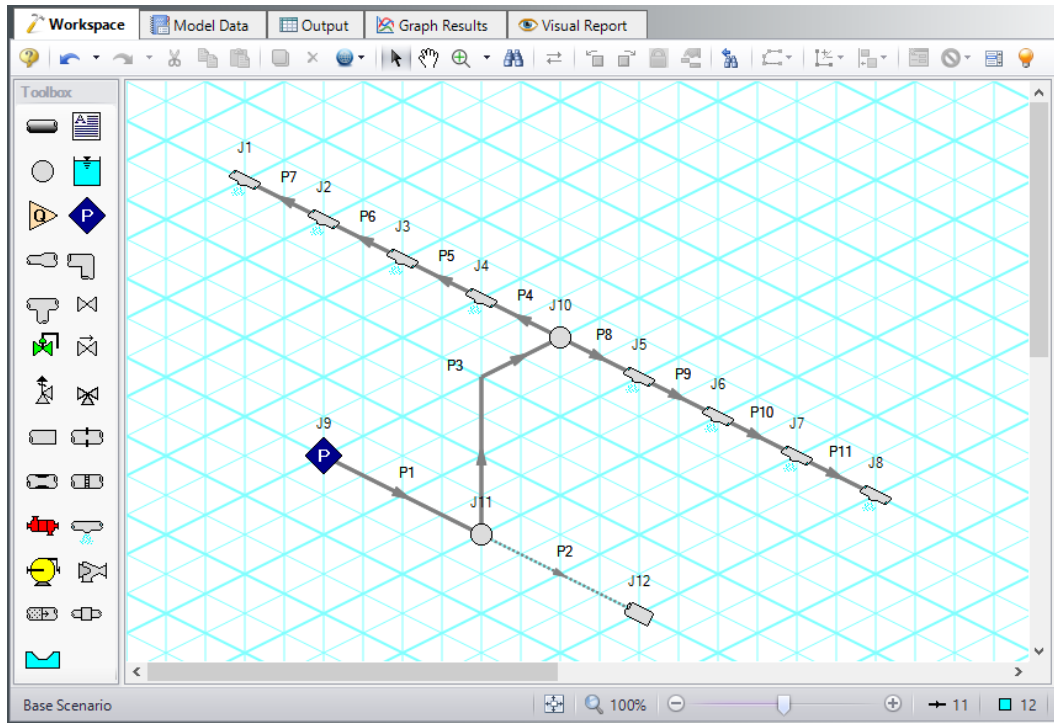

Figure 3.10 Spray discharge system with the isometric grid shown
At times it may be convenient to demonstrate the three-dimensional nature of a system. For example, you may be building a model based on isometric reference drawings. AFT Fathom includes an Isometric Pipe Drawing Mode for these cases. The isometric grid has three gridlines that are offset by 60° , representing the x, y, and z axes. Figure 3.10 shows the spray discharge system built on an isometric grid.
10. Draw Pipes P1 and P2 as shown in Figure 3.10.
12. Draw Pipes P4-P11 as shown in Figure 3.10.
13. Right-click on junctions J1 and J8 and select Customize Icon. Select the appropriate orientation, as shown in Figure 3.10.